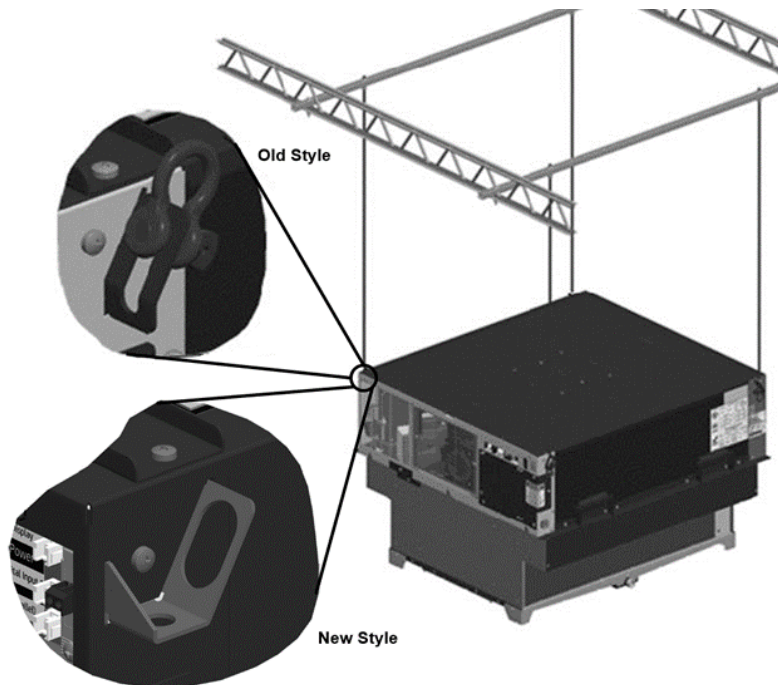
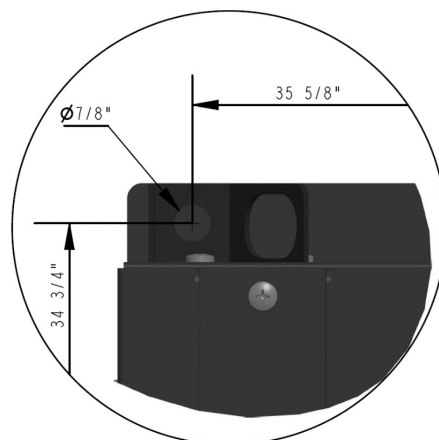

Figure 11 – Example of Suspended/Hang unit mounting
Figure 12 – New Style Hanging Hole Pattern
- Suspended/Hang – In this configuration, the unit is suspended by a structure above the chamber with hanger rods and fixed in the unit support points. An example of hanging the unit is shown in Figure 11. The mounting structure and hanger rod kit are not included with the product. Hanging hole pattern for New Style is 34-3/4" by 35-5/8" (see Figure 12).
The Krack units also include a set of trims to be installed on the ceiling, inside the chamber shown in Figure 11. The trims are supplied inside the packaging along with other ship-loose items. Attachment screws are not provided. It is recommended to use: 5/32" self-tapping screws for this installation.